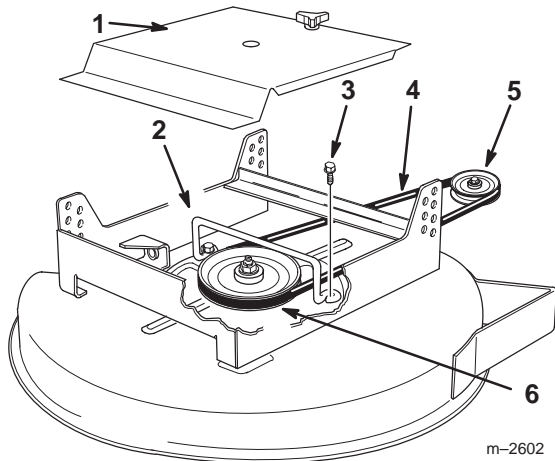

Figure 41
- Grease the fitting on the spindle pulley bearing (Fig. 41).
- Loosen the hand knob holding the mower cover to the top of the mower and remove the cover (Fig. 41).
- Remove the two flange-head bolts holding the belt guide to the top of the mower and remove the belt guide (Fig. 41).
- Install the mower cover onto the cutting unit, then tighten the hand knob (Fig. 41).